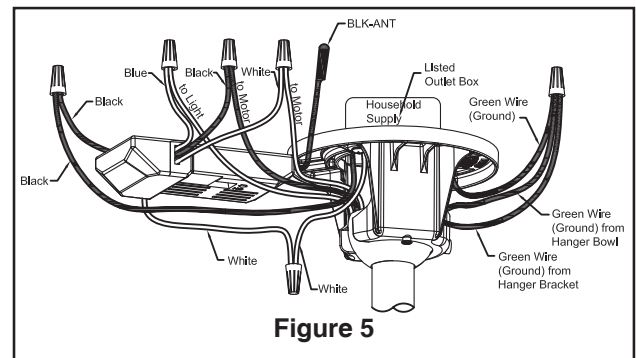

Figure 5
- 5. Route wires through Motor Coupling Cover, Canopy Screw Cover and Ceiling Canopy. (Figure 5)
4. Connect green wires from hanger bracket hanger ball to bare (ground) wire using wire connector supplied. Connect black wire from receiver unit marked "AC IN L" to black supply wire using wire connector supplied. Connect white wire from receiver unit marked "AC IN N" to white supply wire using wire connector supplied. Connect white wire from receiver unit marked "TO MOTOR N" to white wire from fan using wire connector supplied with receiver. Connect black wire from receiver unit marked "TO MOTOR L" to black wire from fan using wire connector supplied. Lastly, connect blue wire from receiver to the blue fan light wire using wire connector supplied. Position all connected wires and receiver antenna to allow installation of ceiling canopy (Figure 5).
5. After splicing and making the wire connections, the wires should be spread apart and turned upward with the grounded conductor and the equipment-grounding conductor on one side of the outlet box and the ungrounded conductor on the other side of the outlet box. (Figure 5)